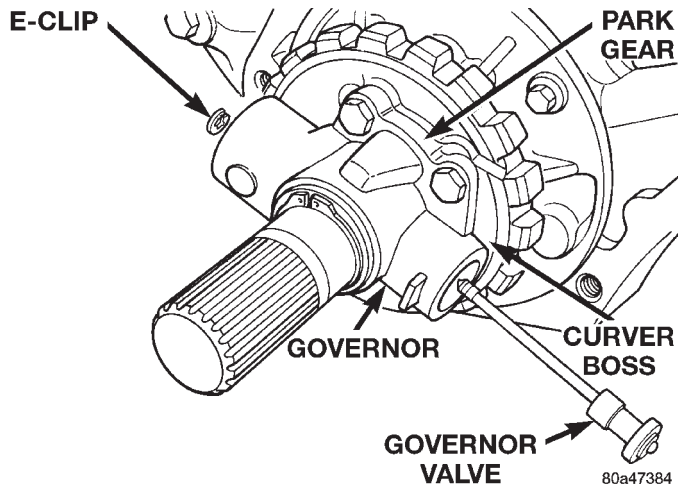

Fig. 35 Governor Valve
(1) Hoist and support vehicle on safety stands.
(2) Mark propeller shaft and axle yoke for assembly reference. Then disconnect and remove shaft.
(3) Disconnect parking brake cable at equalizer and disconnect exhaust components as necessary.
(4) Support transmission on a suitable lifting device.
(5) Remove skid plate and rear transmission mount.
(6) Remove extension housing.
(7) Loosen but do not remove bolts that hold governor body to park gear.
(8) Rotate transmission output shaft until governor weight assembly is accessible.
(9) Remove E-clip at end of governor valve shaft (Fig. 35).
(10) Remove governor valve and shaft from governor body (Fig. 35).
- (6) Insert governor valve and shaft through governor and install E-clip (Fig. 35).
- (7) Install extension housing and gasket on transmission. Tighten housing bolts to 32 N·m (24 ft. lbs.).
- (8) Install rear transmission mount and skid plate.
- (9) Install speed sensor and speedometer components and connect speed sensor wires.
- (10) Connect exhaust components and brake cable, if removed.
- (11) Install propeller shaft.
- (12) Remove supports and lower vehicle.
- (13) Check transmission fluid level. Add fluid if necessary.